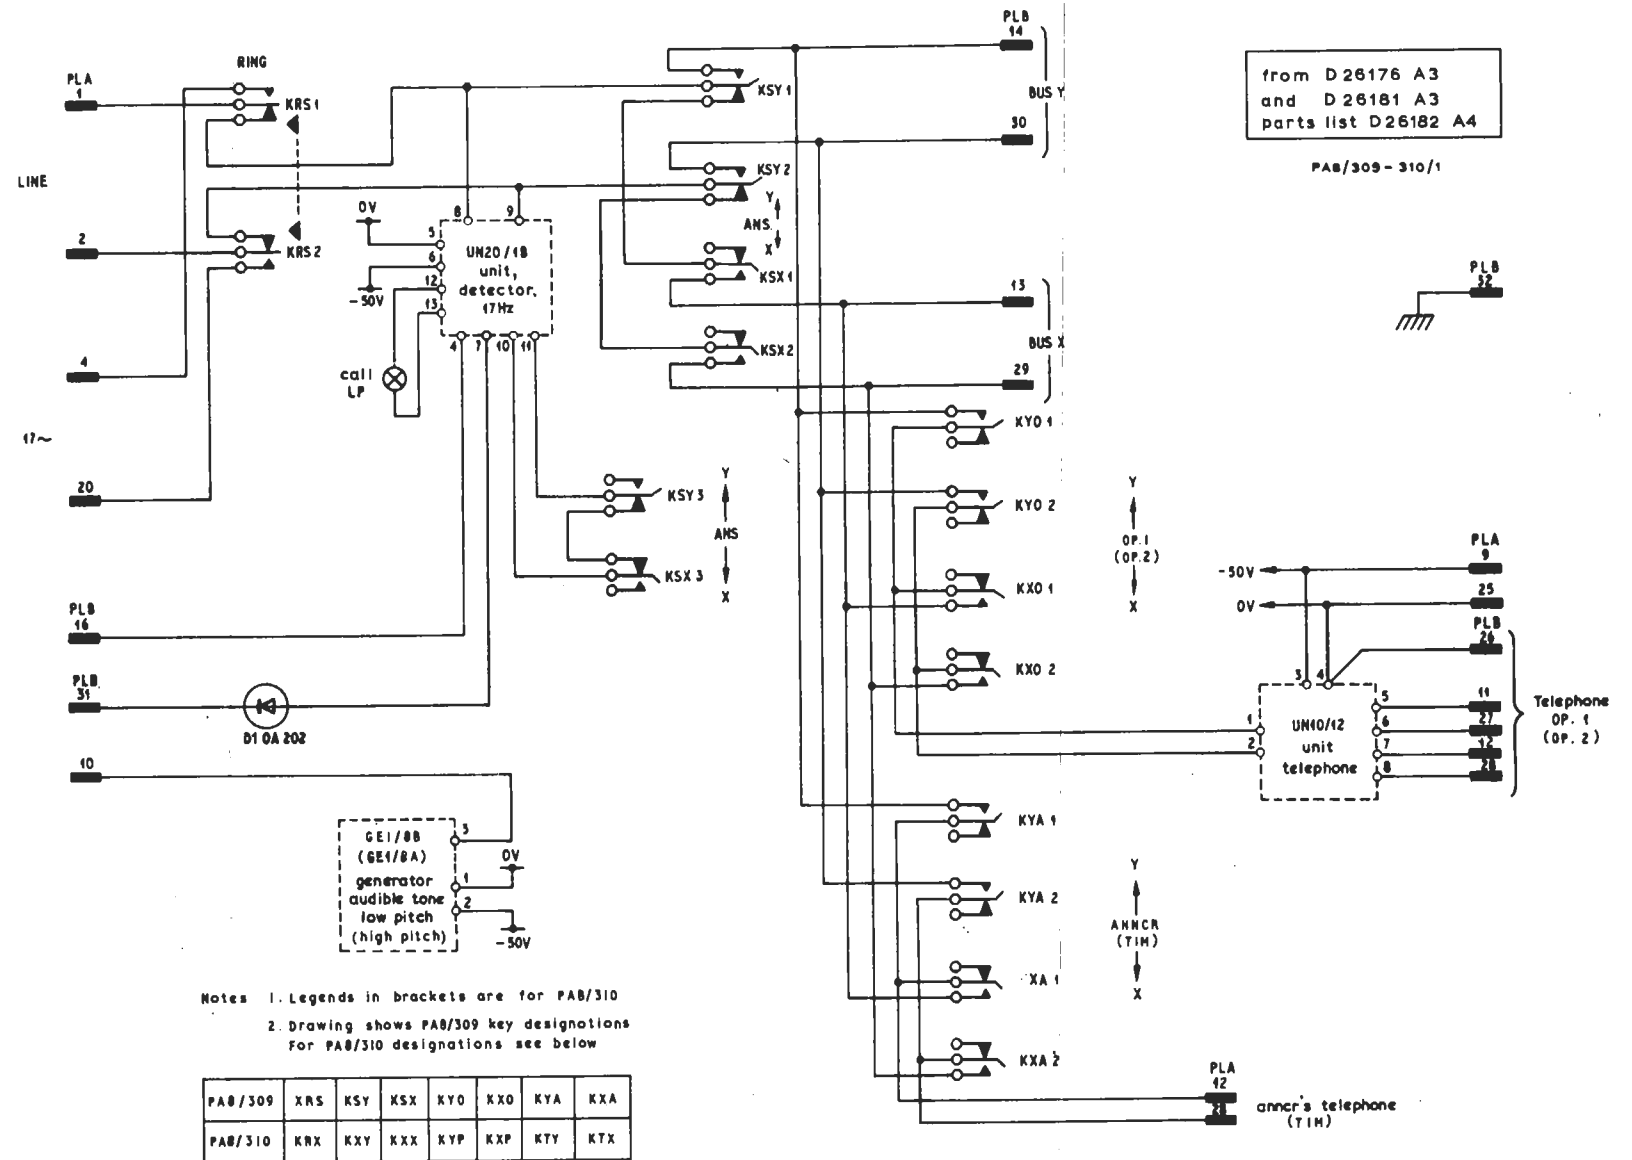

Fig. 1. Circuit of the PA8/309 and PA8/310
**Circuit Description (Fig. 1)**
The circuit (Fig. 1) and equipment of the PA8/310 are identical to those of the PA8/309, except that the PA8/310 has a high-pitch tone generator GE1/8A, its operator's telephone key is engraved OP2 and it has a key to connect TIM to the telephone busbars in place of an announcer's key.